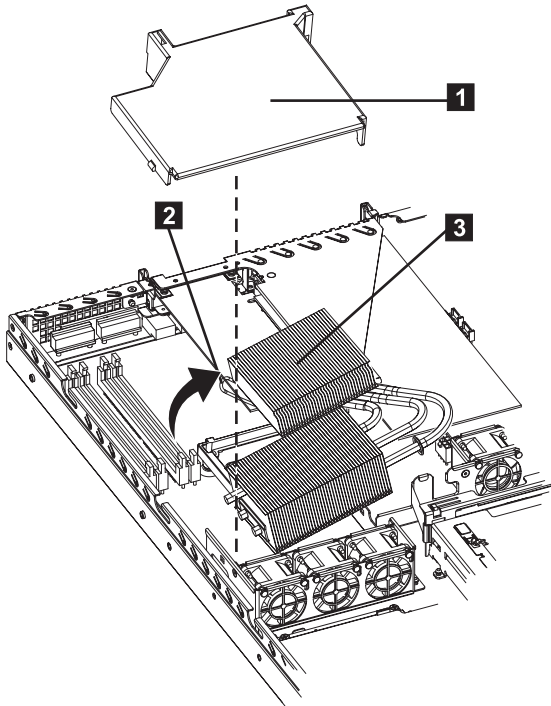

Figure 252. SAN Volume Controller 2145-8A4 air baffle and heat-exchanger assembly
5. Remove the air baffle (**1** in Figure 252). Grasp the air baffle by the leftmost and rightmost rear corners and lift it up out of the node.
6. Open the heat-exchanger-assembly release latch (**2** in Figure 252) to the fully open position.
7. Lift the side of the heat-exchanger assembly (**3** in Figure 252) that is closer to the middle of the node, slide it toward the middle of the node slightly, and lift the entire assembly out of the node.